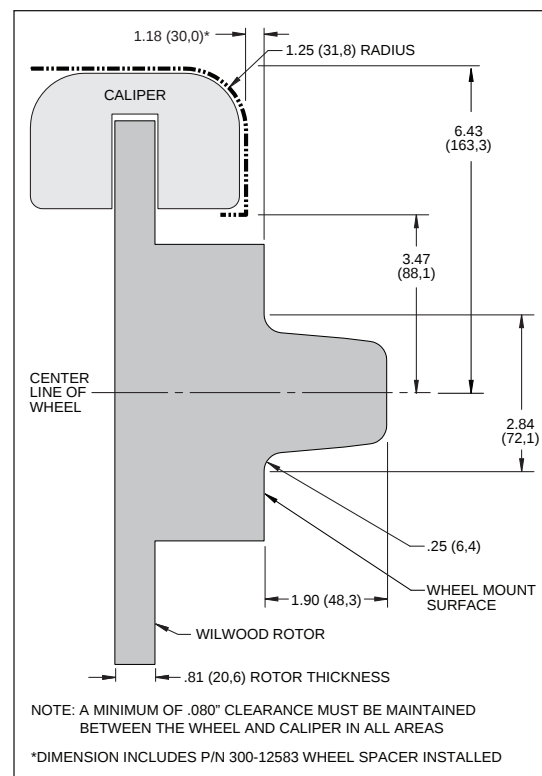

Figure 2. Wheel Clearance Diagram
- Review the Wheel Clearance Diagram (Figure 2, page 3) to verify that there is adequate clearance with the wheels you will be using with the installation.
- Verify wheel clearance utilizing Figure 2.
•**WARNING:** The wheel contact surfaces must seat completely on the face of the hub. If any contact surfaces overhang the outside diameter of the hub face, a 6.60" diameter x .20" thick steel spacer (item 25, Wilwood P/N 300-12583) MUST be used between the wheel and the hub.
•**NOTE:** The OEM 14" 4-lug steel wheel requires use of wheel spacer (25) for clearance.